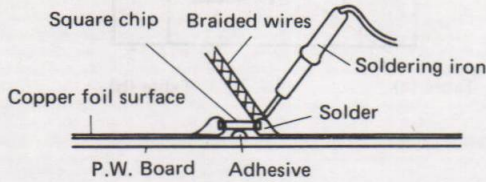

Figure 5
1. Using the braided wires, absorb the solder on both ends of the square chip. Refer to Fig. 5.